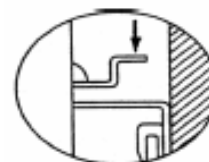

Fig.1
- Remove wall mounting bracket from back of heater by depressing the two spring latches at the top of the heater (see Fig.1)